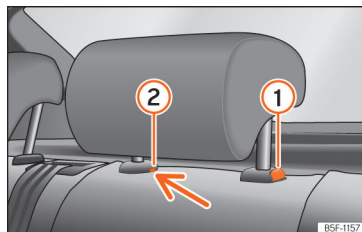

Fig. 66 Rear headrest: removal.
- Press button »» Fig. 66 ①, while simultaneously pressing on the safety hole ② with a flat screwdriver a maximum of 5 mm wide, and remove the headrest.